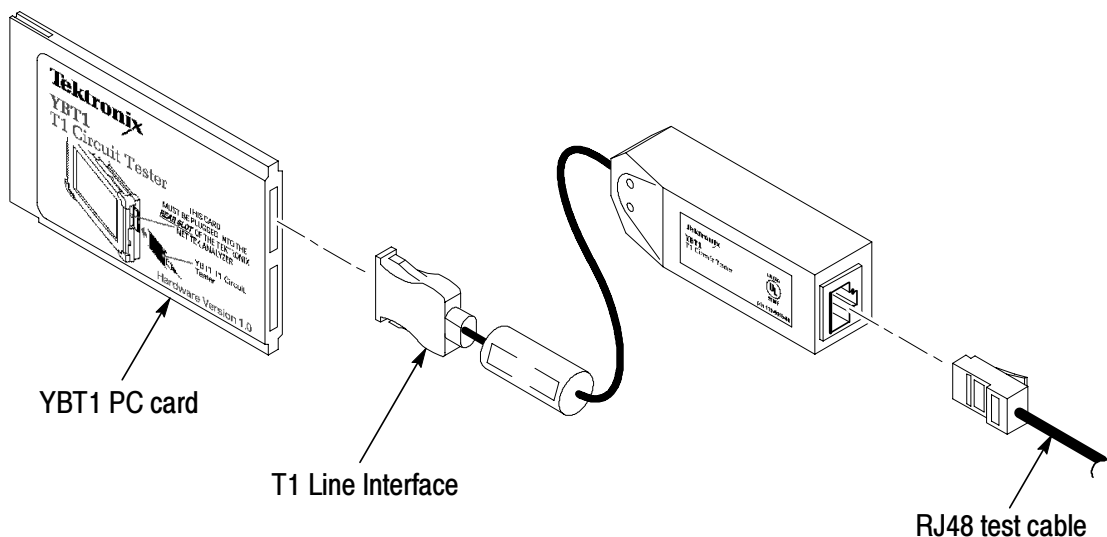

Figure 1-2: Assembling the NetTek YBT1
1. Connect the PC card to the T1 Line Interface. See Figure 1-2.